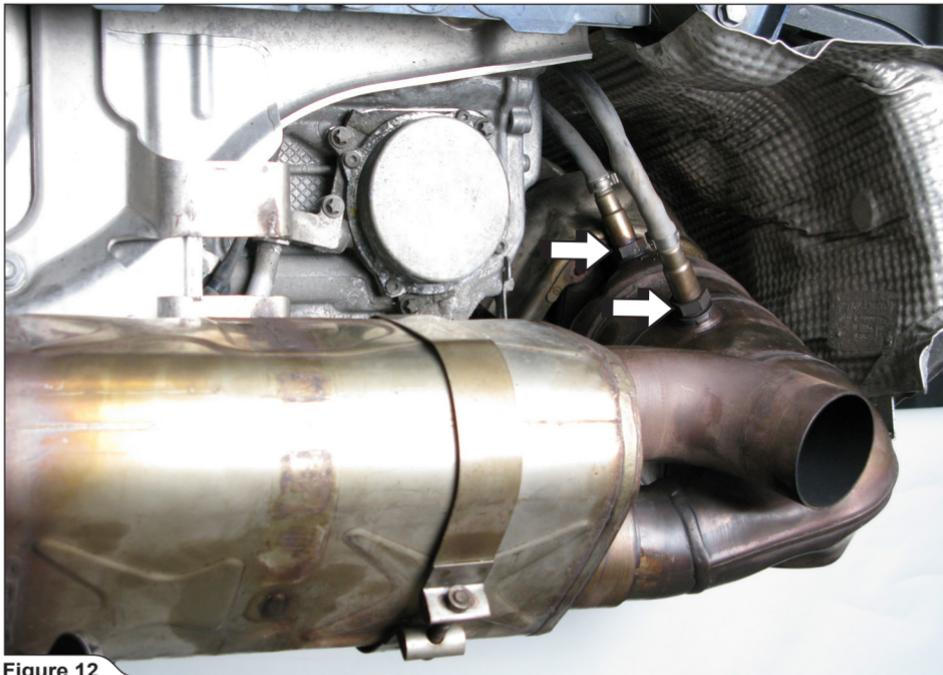

Figure 12
9. **For Slip-On and Slip-On with optional Link Pipes:** slide the muffler clamps off the brackets behind the muffler and carefully lower the muffler with link pipes, until you can unscrew the lambda sensors. Unscrew all lambda sensors and remove the muffler together with link pipes off the vehicle (**Figure 12**).